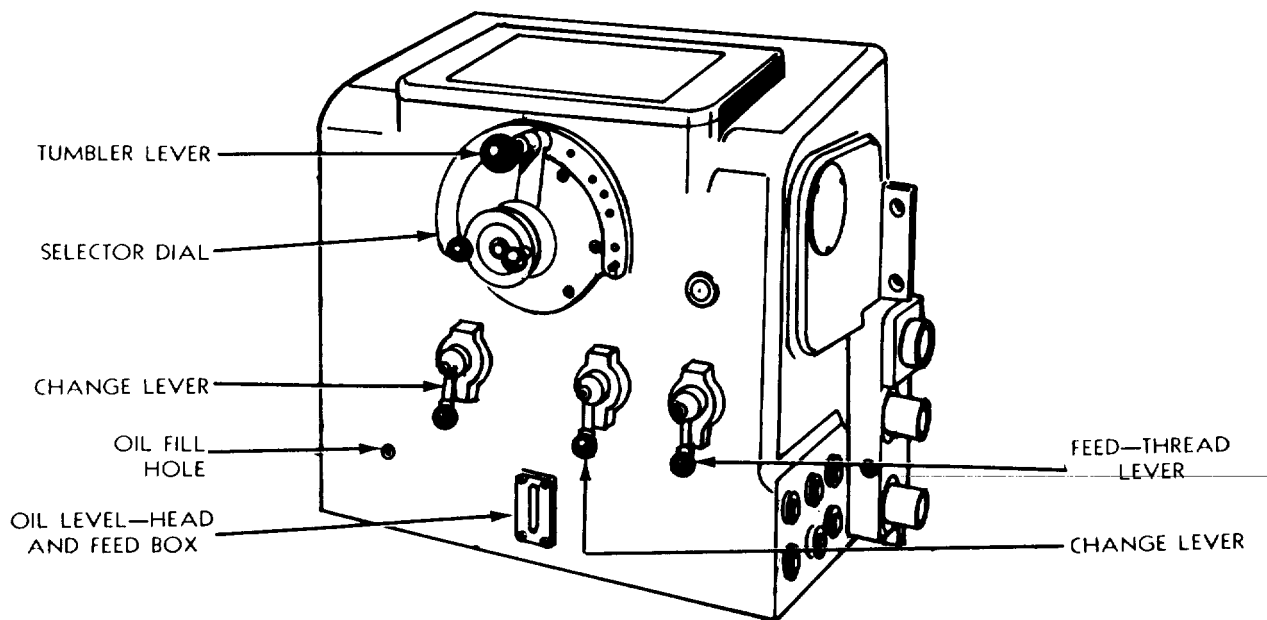

Figure No. 8-English Quick Change totally enclosed gear box
**FEED ROD AND LEADSCREW**--The feed rod and leadscrew are independent of one another and when one is running the other is stationary. To change the drive from one to the other merely position the small lever, Figure No. 8 on the right side of the gear box, to read "FEED" or "THREAD".